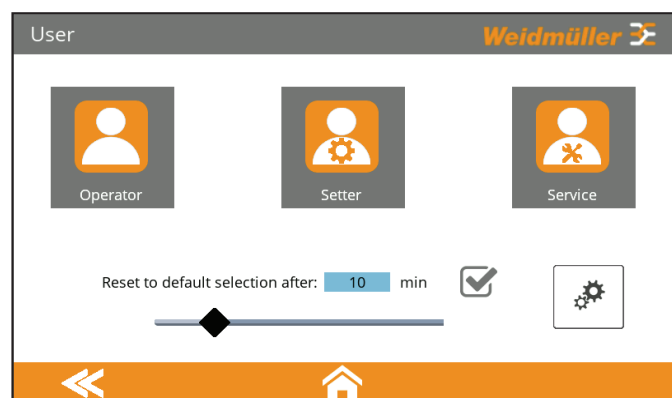

Figure 5.9 Menu User
► In the menu **User**, tap the gear icon, see Figure 5.9. The current rights of the adjustable user types are displayed.